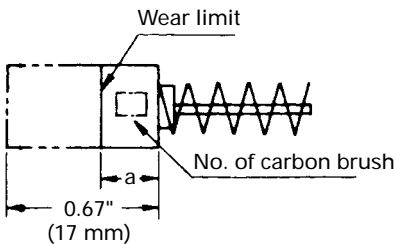

Fig. 6
4. Inspecting the carbon brushes (Fig. 6)
**NOTE:** Use HITACHI carbon brush No. 44 or 74 indicated in Fig. 6.